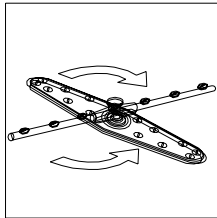
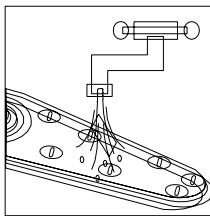

Fig. 14
Fig. 18
- From time to time clean washing and rinsing arms and nozzles, as shown from Fig.14 to Fig. 18.